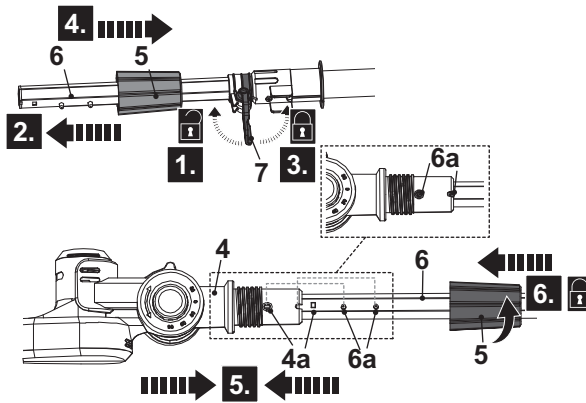

Fig. 1
1. Loosen the locking lever (7) (Fig. 1, step 1) and pull out the pole extension (6) (Fig. 1, step 2), then fasten the locking lever (7) (Fig. 1, step 3).
2. Move the locking sleeve (5) back onto the pole extension (Fig. 1, step 4).
3. Align the pole extension (6) with the pole support (4) and insert it. Make sure the pins (6a) snaps in the bores (4a) for reliable connection (Fig. 1, step 5).
4. Fit the locking sleeve (5) on the thread of pole support (4) and tighten the locking sleeve (5) clockwise to secure the connections (Fig. 1, step 6).